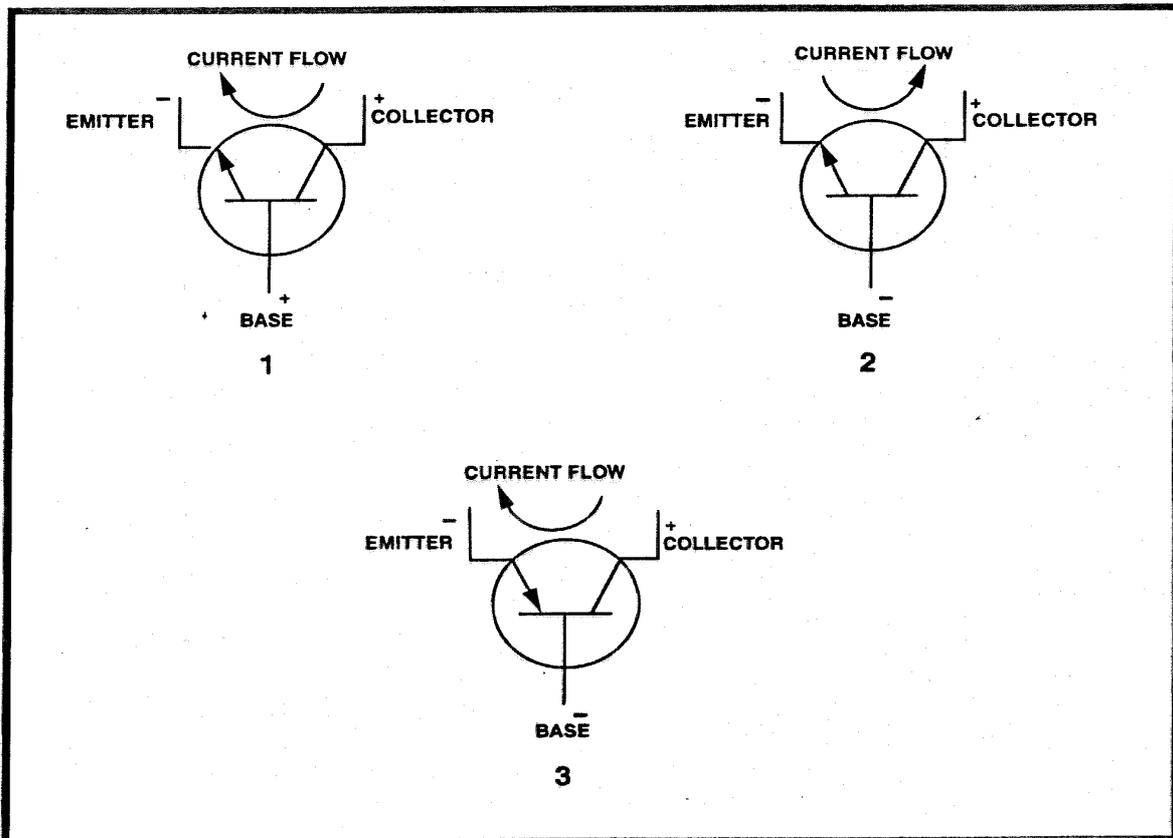

Fig. 9.13. Transistors.
83. (Refer to figure 9.13) Which illustration is correct concerning bias application and current flow ?